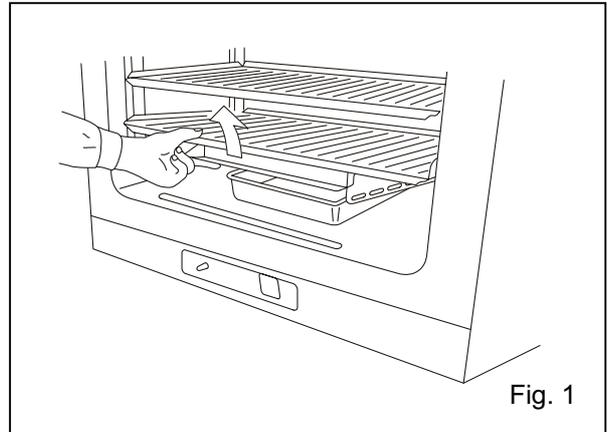

Fig. 1
3. Pull out the all trays. See Fig. 1
1. Lift the front side of the humidifying pan cover as shown in Fig. 1.